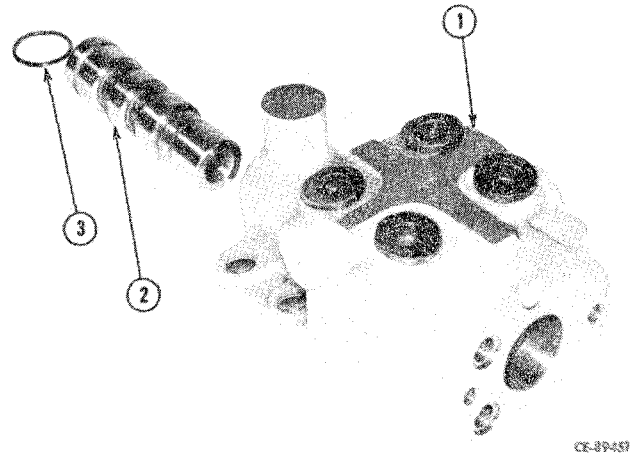

Figure 8-15
Slide spool (2, Fig. 8-15) out of housing (1). Remove "O" ring (3) from groove in spool. Discard "O" ring.